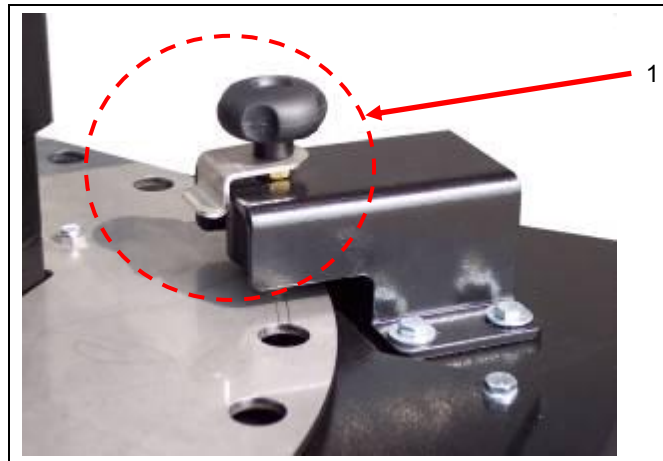

Figure 5.7 – rotating the column
⦿ The column can be oriented according to requirements. The column can pivot over 340°, by lifting and turning the pivot bolt (fig. 5.7, ref. 1).
- 2 If the telescopic column has been oriented, return it to its initial position, then lock the column rotation using the corresponding pivot (fig.5.7, ref.1).